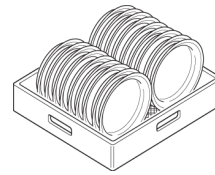

Fig.22
- 1- Load plates in frontal position. (Fig.22)